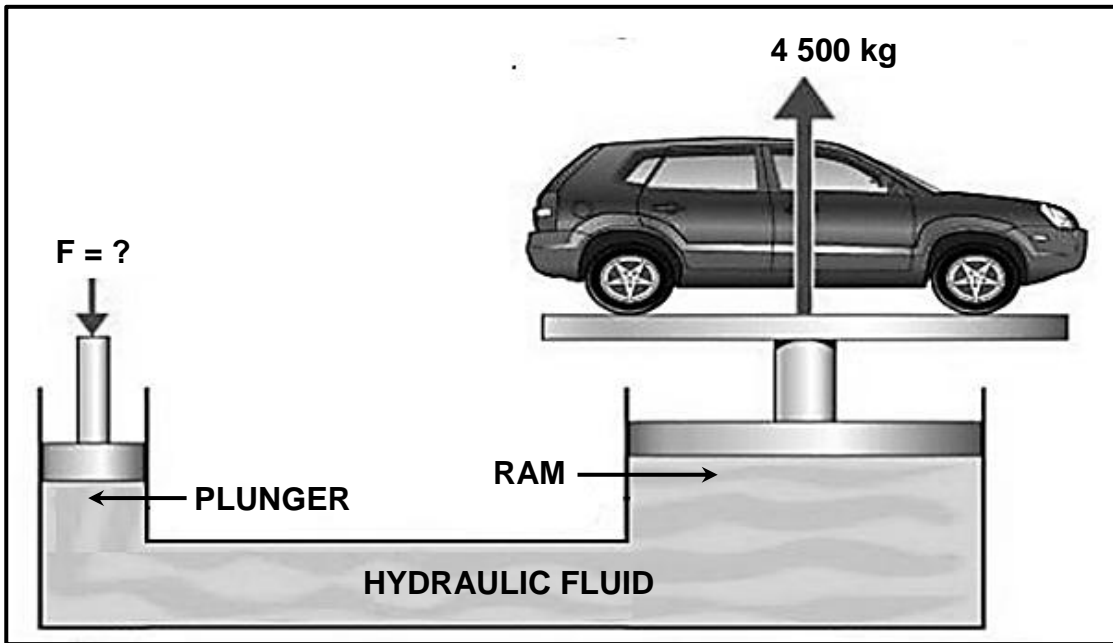

FIGURE 11.1
11.1 FIGURE 11.1 below shows a hydraulic lift. The lift needs to raise a maximum load of 4 500 kg at the ram with a diameter of 120 mm. The diameter of the plunger is 32 mm. Answer the questions that follow.